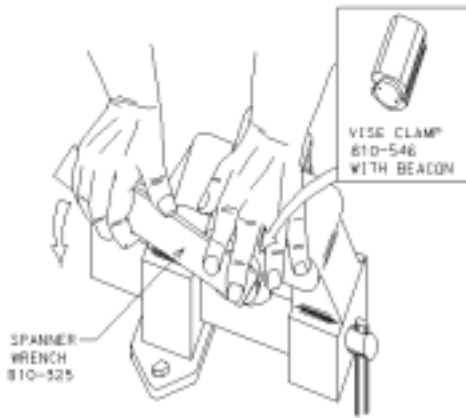

Figure 3. Battery End Cover Removal With Vise Clamp and Spanner Wrench
A. Secure the beacon with Vise-Clamp (P/N 810-546) as shown in Figure 3.
I. Replace the cover and tighten it until the cover flange contacts the body or leaves less than a 0.08 mm gap. Use hand force only on the wrench. Hold the beacon in a vise clamp as shown in Figure 3. Clean the beacon exterior of excess O-ring grease.